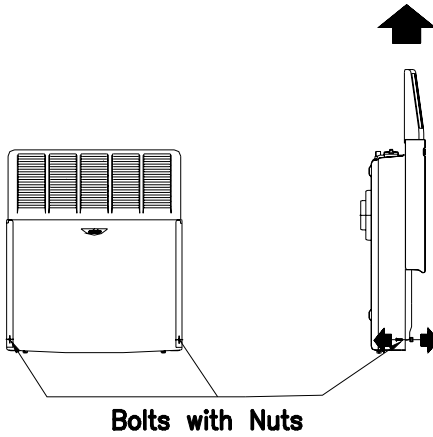

Fig. 7
- Separate the front panel of the appliance by removing the two nuts at the bottom and sliding it up as shown in figure 7.